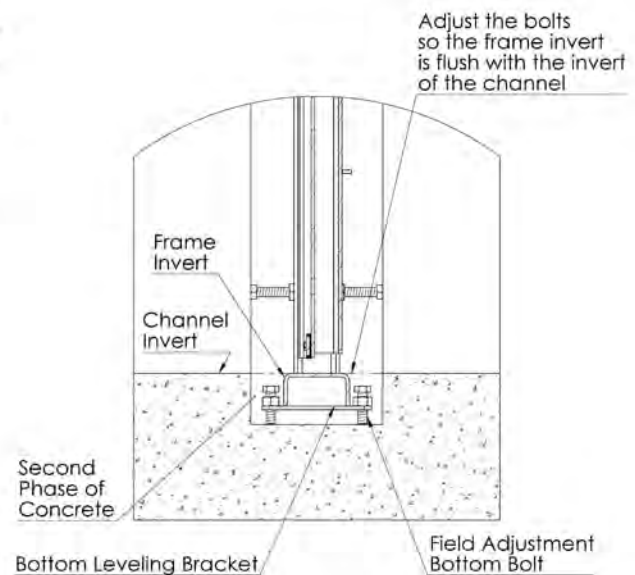

Figure 2
- Align the gate vertically adjusting the bolts on the "Bottom Leveling Brackets" (see Figure 2). Make sure that the frame invert is flush with the invert of the channel.